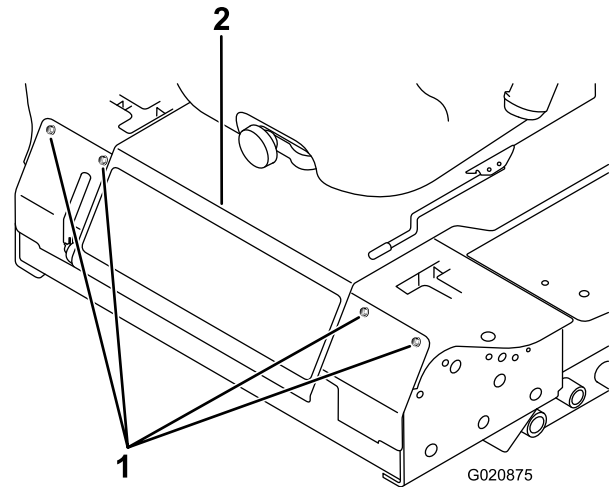

Figure 78
2. Remove the bolts securing the front panel and remove the panel (Figure 78).